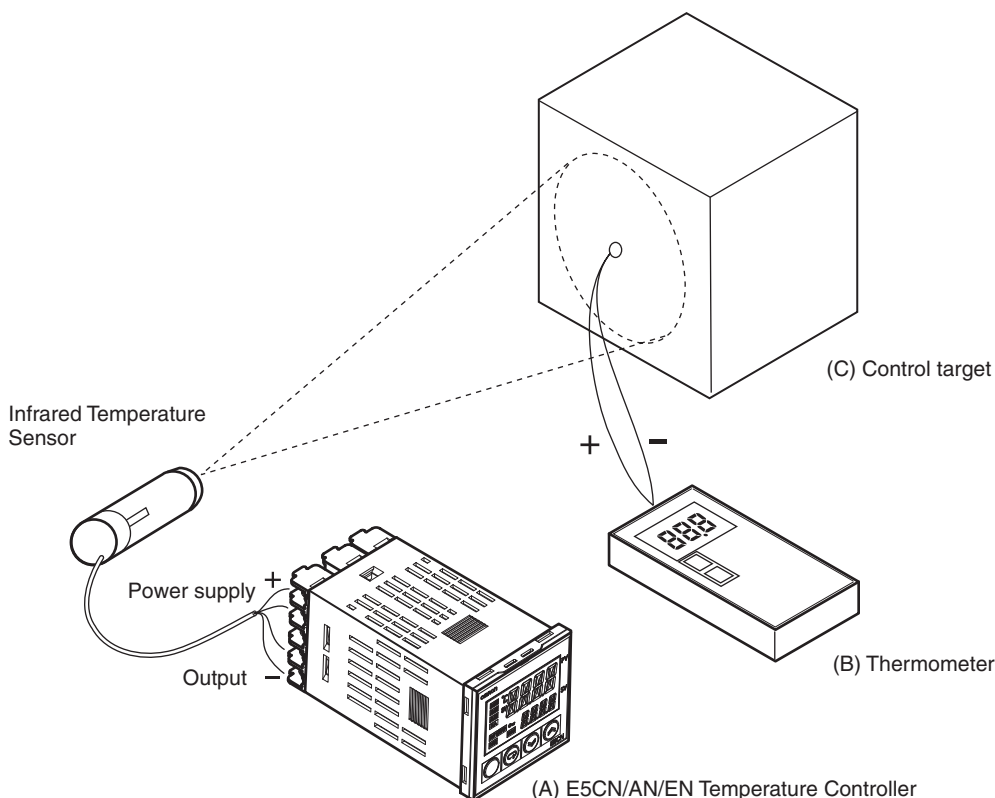

Figure 1 Offset Configuration for an Infrared Temperature Sensor
2. Prepare a thermometer capable of measuring the temperature of the control target as shown in *Figure 1* so that a 1-point shift or 2-point shift can be carried out.
1. In the configuration shown in *Figure 1*, bring the set point to near the value at which the temperature of the control target is to be controlled. Assume that the control target temperature (C) and the thermometer temperature (B) are the same.